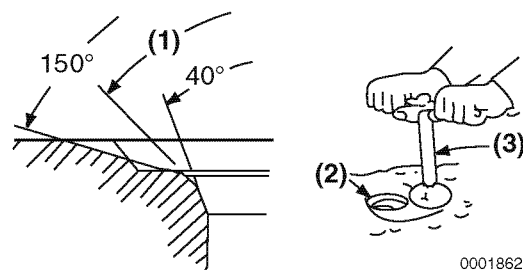

Figure 6-25
Light cutting can be performed by the use of a hand-operated cutter (**Figure 6-25, (3)**).
The valve seat diameter can be adjusted by top-grinding with a 150° stone to make the seat diameter smaller, and bottom-grinding using a 40° stone to make the seat diameter larger. Once the seat location has been corrected, grind and lap the seat angle (**Figure 6-25, (1)**) to specification. See *Cylinder Head on page 6-4 for specifications*.